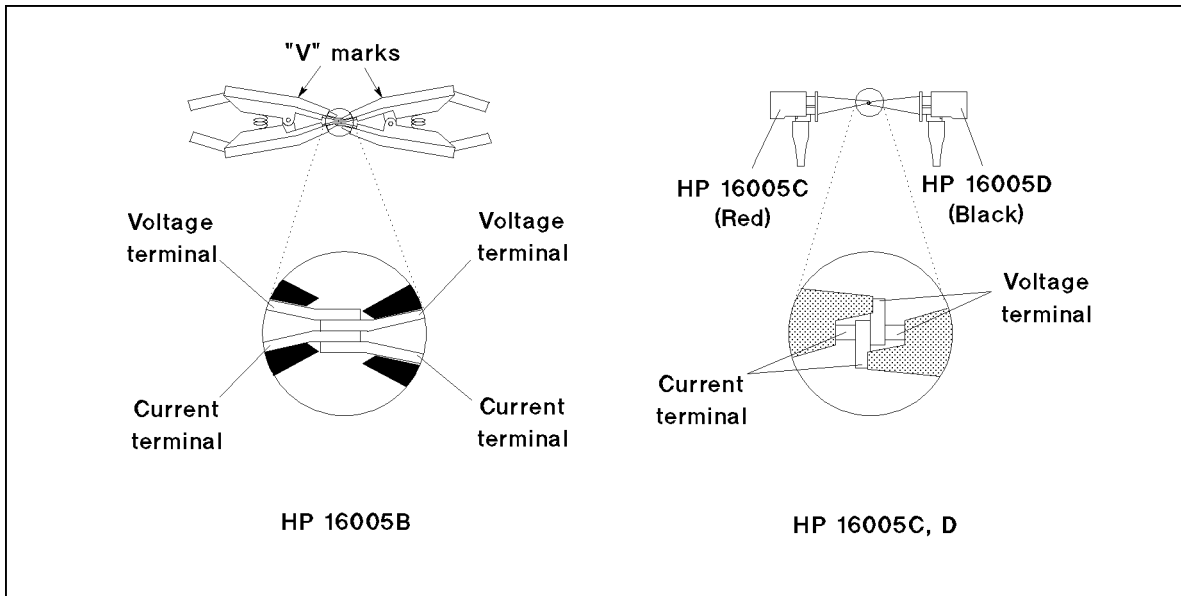
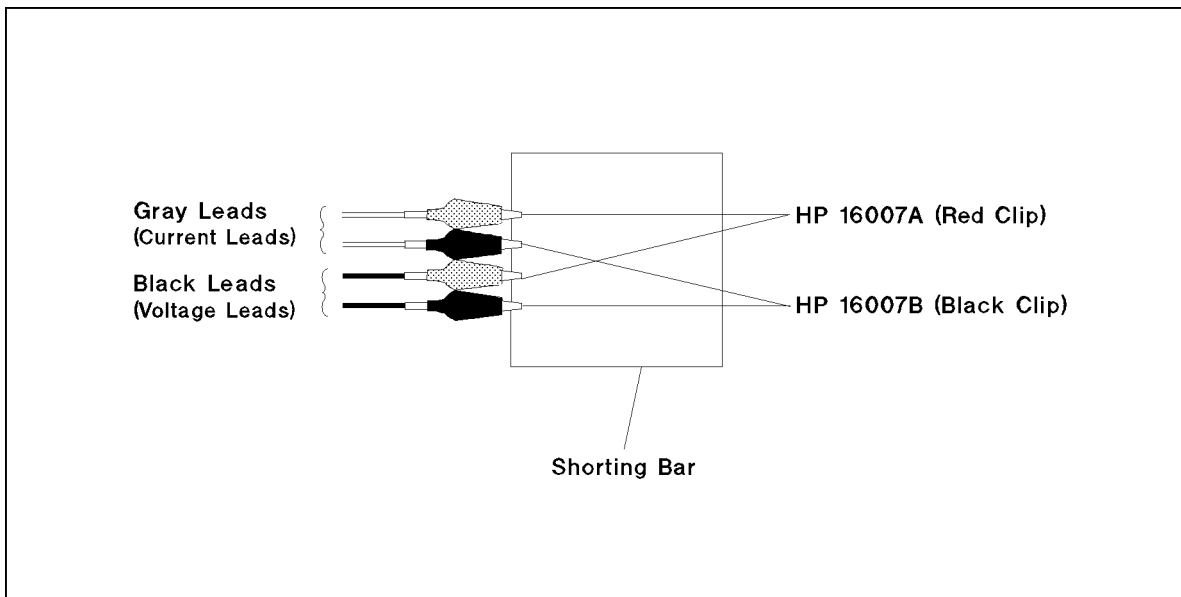

Figure 3-2. Making a Shorting Connection for the 16005B, C, D
Figure 3-3. Making a Shorting Connection for the 16007A, B
1. Connect the test probe clips together as shown in Figure 3-2 and Figure 3-3.
1. Connect the test probe clips as shown in Figure 3-2 and Figure 3-3.